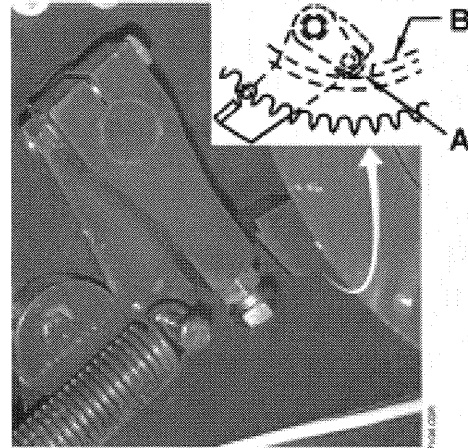

Fig. 13
D. Trip the knotter clutch and ensure that the clutch pawl roller "A," is in contact with the clutch drive hub and in front of the knotter clutch stop cleat "B," *Fig. 13*.